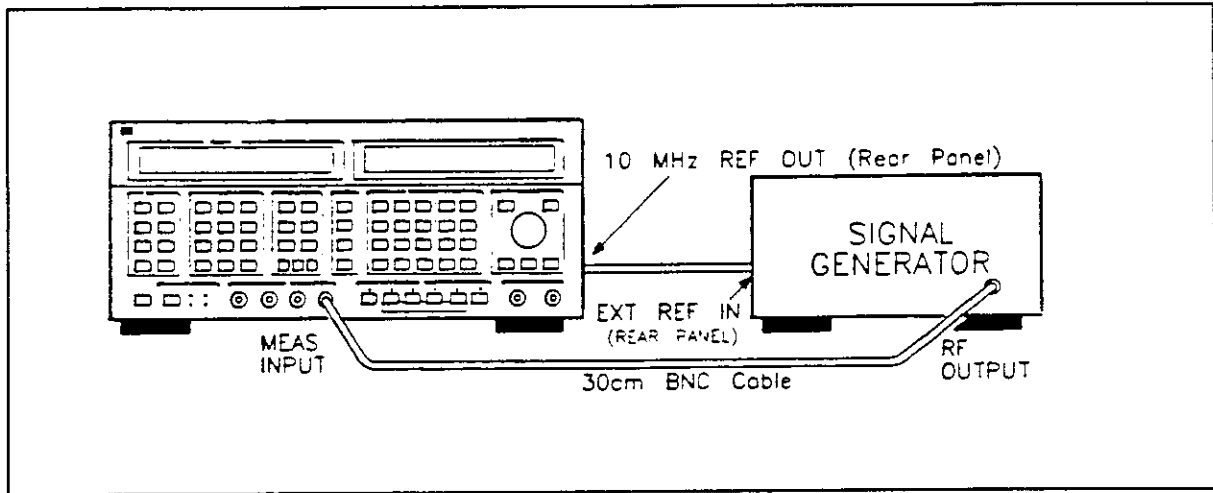

Figure 8-21. Counter Accuracy and Sensitivity Test Setup
- Connect the equipment as shown in figure 8-21.